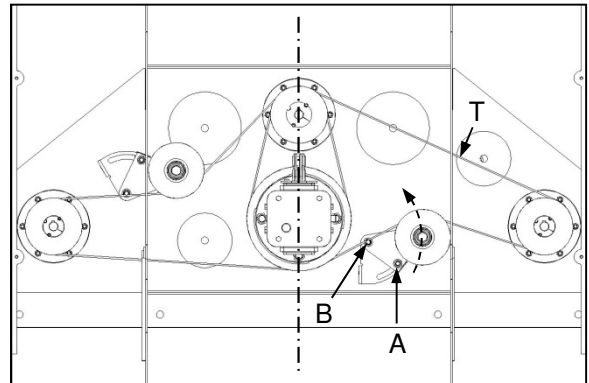

Fig. 5
- ⊖ Drive belt tension (Fig. 5-T) should be checked at the mid-point of the longest belt path between pulley centres. A deflection of ± 20 mm should be evident when single-finger pressure is applied to a single belt.
- ⊖ Dryfbandspanning (Fig. 5-T) moet halfpad tussen die katrolsentrums gekontroleer word. Speling van ± 20 mm behoort met eenvingerdruk op 'n enkele band sigbaar te wees.
- ✓ Loosen the locking nut (Fig. 5-A) and pivot point nut (Fig. 5-B) on the relevant belt tensioner.
- ✓ Maak die sluitmoer (Fig. 5-A) en spilpuntmoer (Fig. 5-B) aan die relevante bandspanner los.